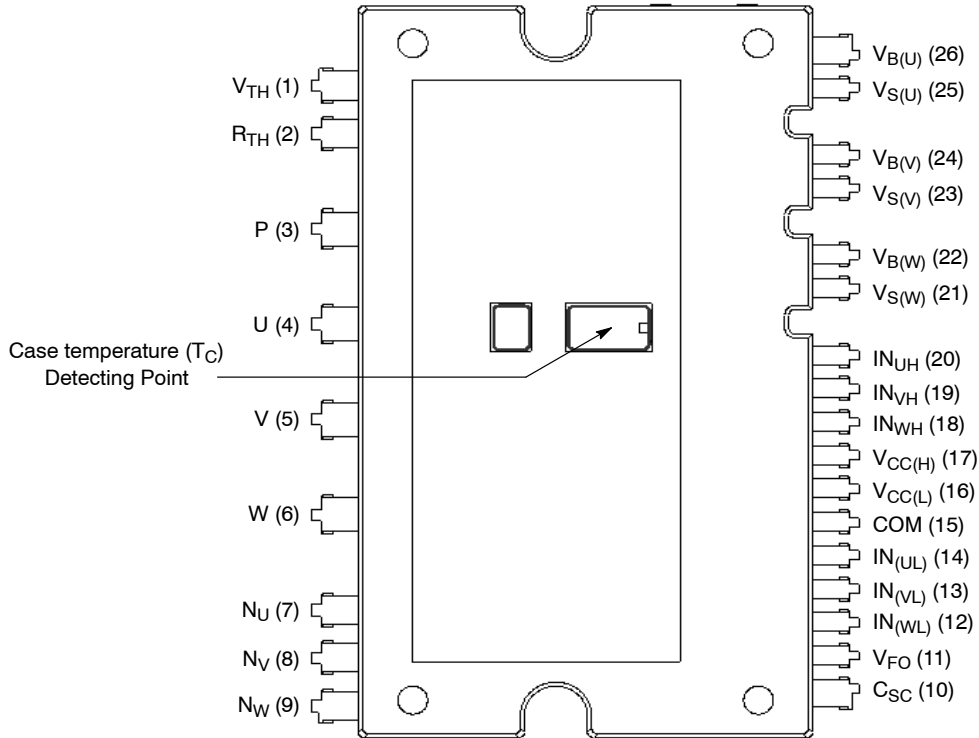

Figure 2. Top View
| T_C | Module Case Operation Temperature | See Figure 2 | -40 ~ 125 | $^\circ\text{C}$ |
2. For the measurement point of case temperature (T_C), please refer to Figure 2.